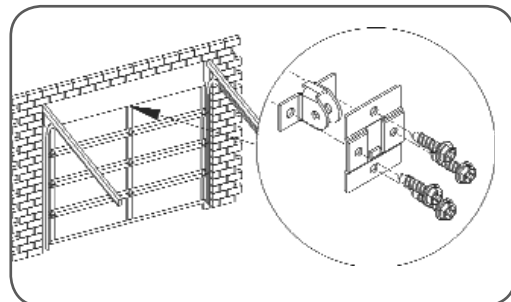

fig 06
7. The door bracket comes in two parts. The top plate is placed over the bottom plate and uses 4 mounting holes for extra strength. Mount the door bracket to the centre line of the door (**Fig. 06**), using M6 or equivalent screws (not supplied) Alternatively it can be welded on steel doors.